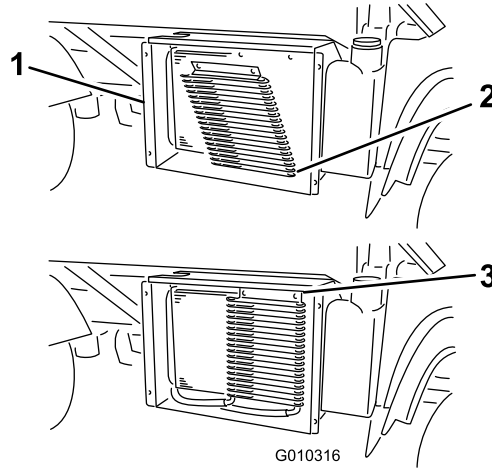

**Figure 60**
2. Unlatch and remove the radiator screen from the front of the radiator (Figure 60).